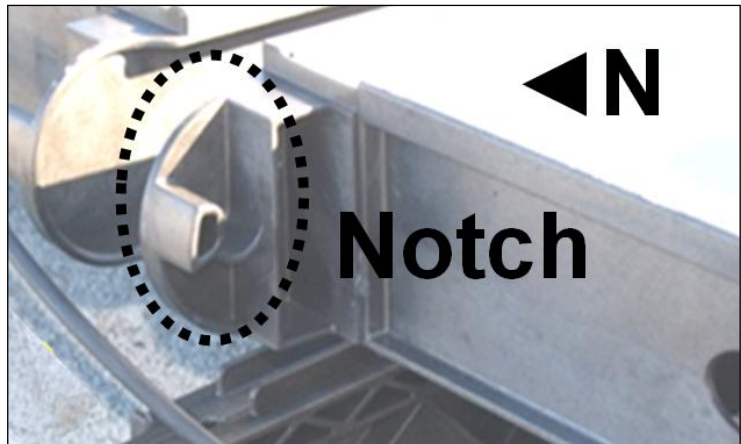

Fig. 65
1. Fit both of the deflector tips into the notches above the feet (Fig. 65). You might have to push back on the retainer with the deflector slightly to get both of the tips into the notches.